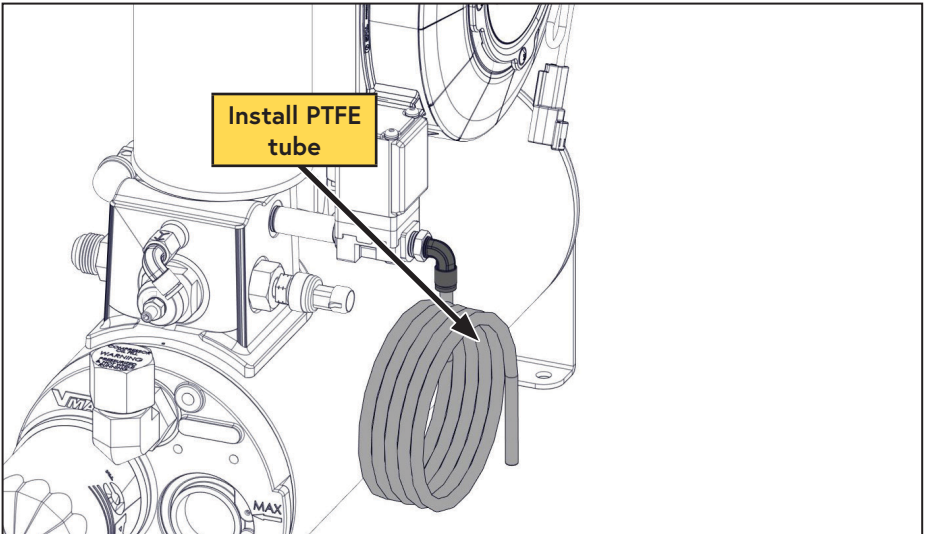

Figure 35 — Tubing Installation
- Connect the 1/4 in PTFE tube into the push-to-connect fitting installed in the WHASP Tank (Figure 35).